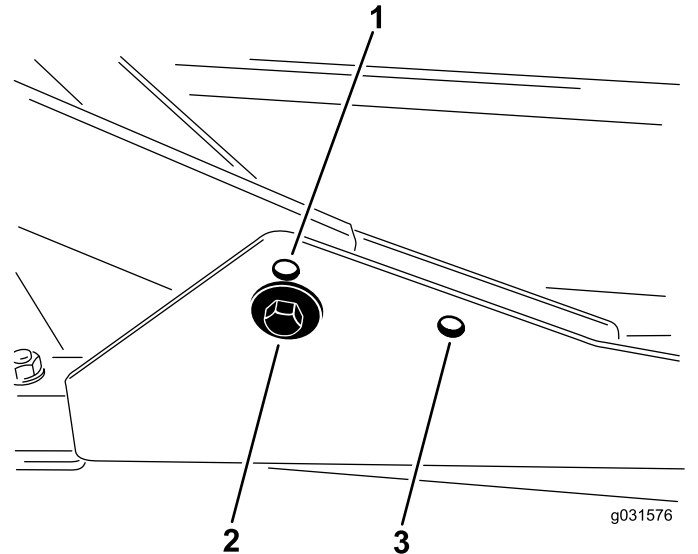

Figure 18
1. For heights of cut in the 2 to 7.6 cm (3/4 to 3 inches) range, mount the front carrier frames in the lower, front mounting holes (Figure 18).
2. For heights of cut in the 6.3 to 10 cm (2-1/2 to 4 inches) range, mount the front carrier frames in the upper, front mounting holes (Figure 18).
For all heights of cut, mount the rear cutting unit in the rear mounting holes (Figure 18).